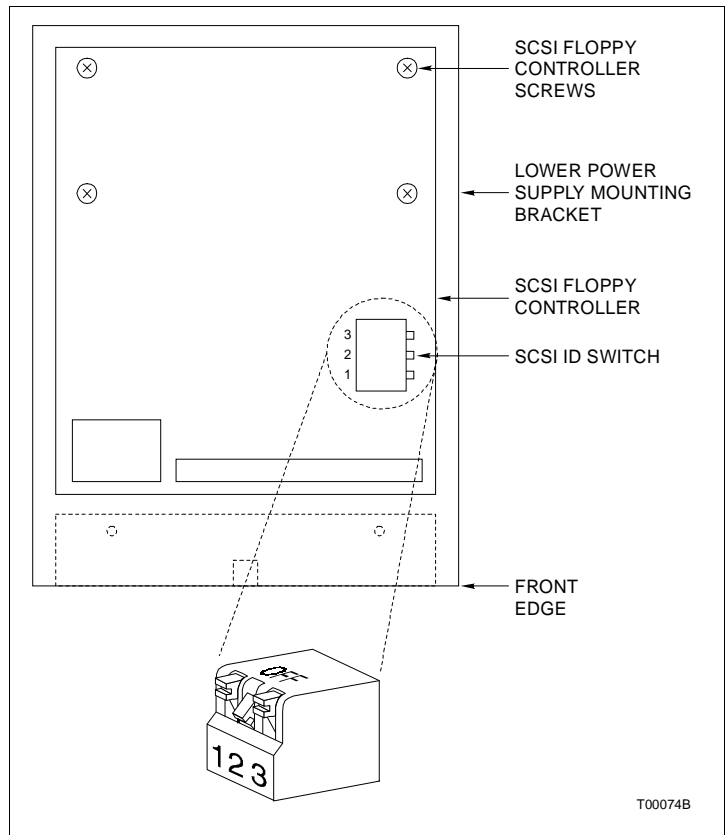

Figure PR63-3. SCSI Floppy Controller Replacement
- 7. Use the Phillips head screwdriver to remove the SCSI floppy controller screws that secure the SCSI floppy controller to the lower power supply mounting bracket (Fig. PR63-3).